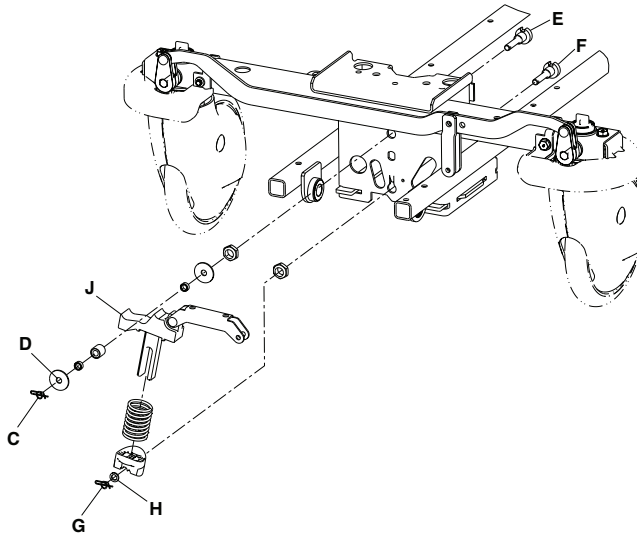

Figure 6 – Brake cam and link replacement
- Using needle nose pliers, remove the rue ring cotter (C) and washer (D) from the bearing pivot support (E) (Figure 6).